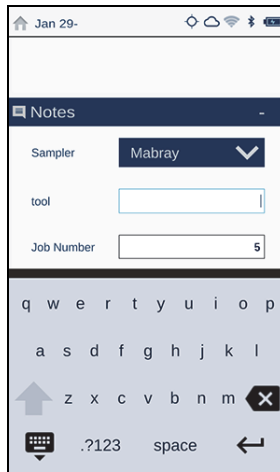

Figure 2-33 Optional note in Live View
2. In **Live View**, tap the **Notes** bar to open the test note (see Figure 2-33 on page 49).